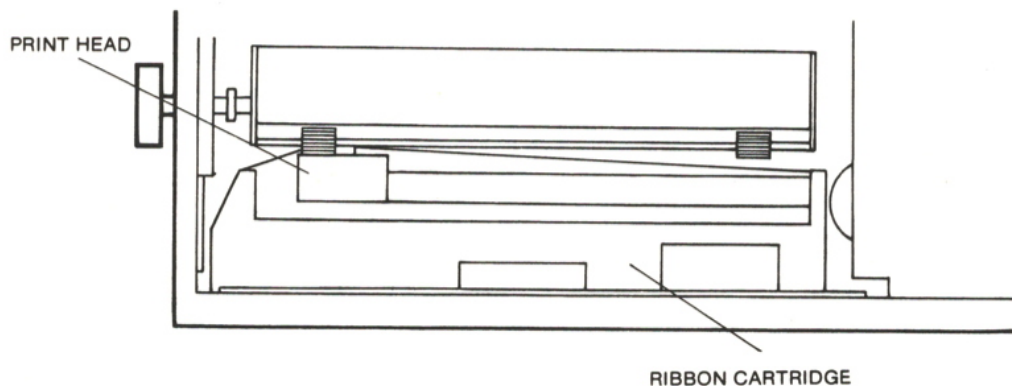

Figure 2. The Printer Cartridge
The printer ribbon (shown in Figure 2) is an easily-loaded cartridge.
3. Install the printer ribbon cartridge as shown in Figure 2.